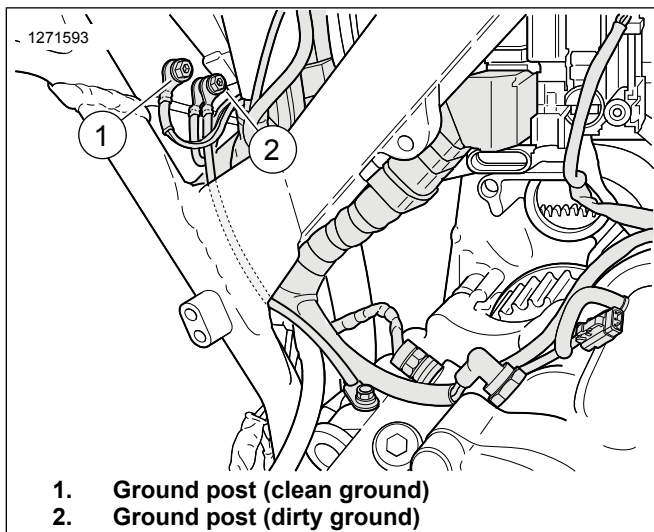

Figure 42. Battery Box Ground Post Locations
See Figure 42. Route and connect ATM ground wire to **clean** ground post (1). Tighten.